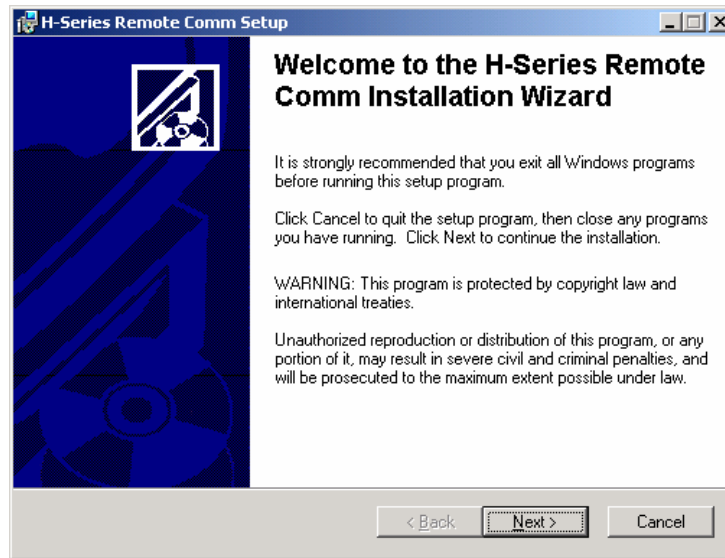

Figure 61 First Screen in Installation Wizard
3. Run the Installation Wizard. (Refer to Figure 61.)